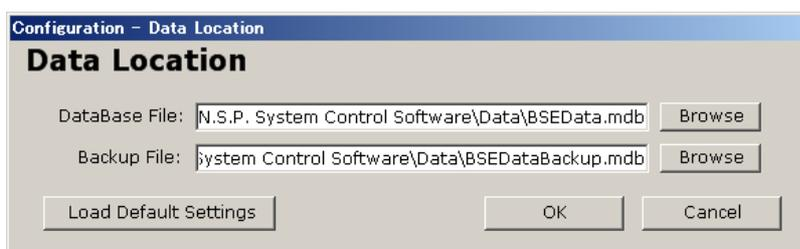

Fig. 11.6-1 : Data location
- (2) Enter use name and password (Fig. 11.2.1-1). The ‘Data location’ screen will appear (Fig. 11.6-1)